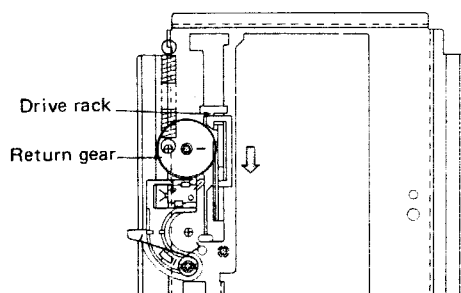

Fig. 14
*When fitting the close switch and return gear again, push the drive rack in the direction of the arrow and set them so that the return gear spring is set on the left side. [See Fig. 14] (The — marked gear of return gear is engaged between the 2nd and 3rd from top of the drive rack gears.)